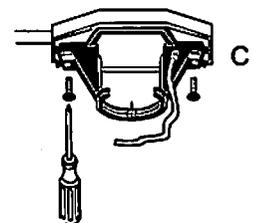

Fig. 4
4. Secure mounting bracket (C) to outlet box using screws, spring washers, and flat washers (size 8 or M5) provided with the outlet box. [Fig. 4]
***Note:** It is very important that you use the proper hardware when installing the mounting bracket (C) as this will support the fan. Please make certain that you purchase any hardware that is missing in order to install the mounting bracket (C) properly.